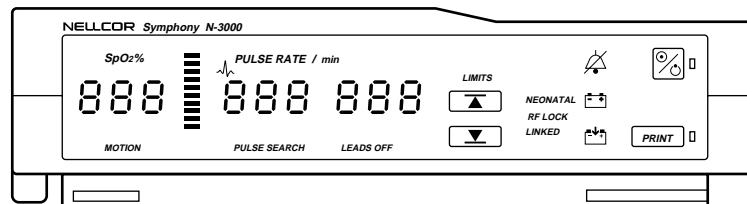

Figure 3-1: Self-Test Display
- b. All indicators light for a few seconds as illustrated in Figure 3-1. Verify that the SpO₂% (left-most display), PULSE RATE (middle), and AUXILIARY (right) displays all indicate “8.8.8.”